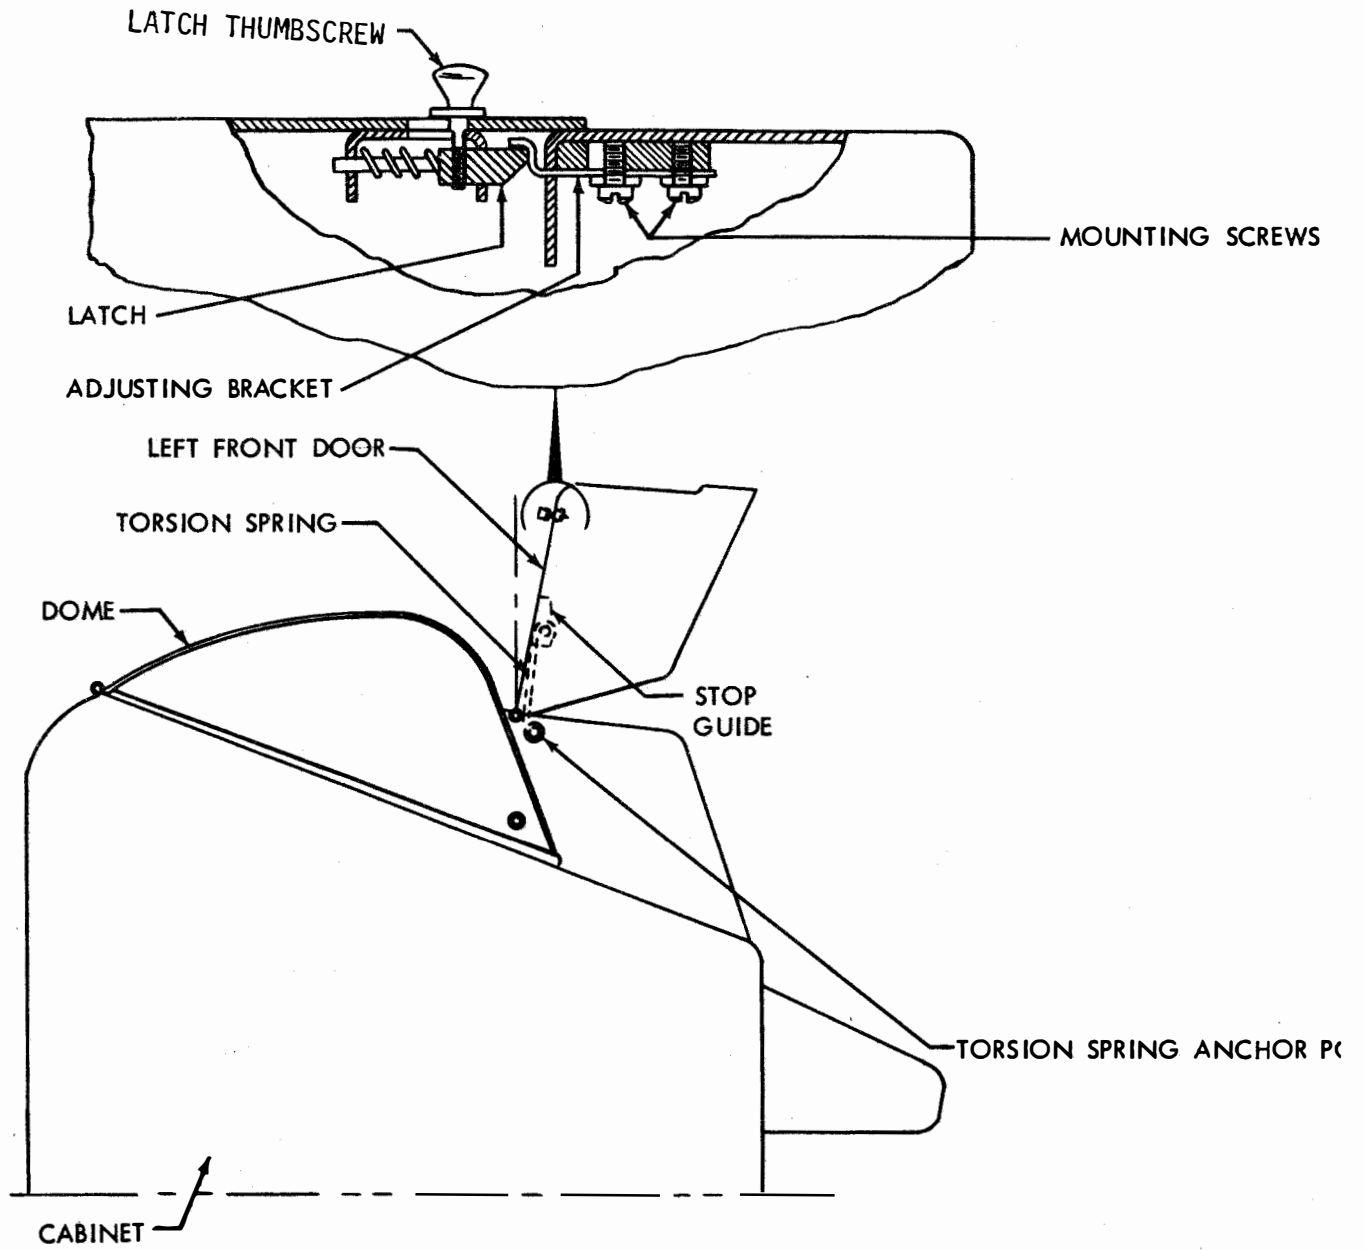

Figure 6-350. Left Front Door
- (1) Refer to Figure 6-350.
- (2) Door should set squarely on its opening and flat on dome.
- (3) To adjust, remove latch thumbscrew, latch, and torsion spring anchor post. Loosen hinge mounting screws and position door. Tighten screws and replace thumbscrew, latch, and post.
- (4) Torsion spring should raise door upward until stopped by stop guide before it reaches a vertical position.
- (5) To adjust, rotate torsion spring post to acquire sufficient lifting power, loosen stop guide